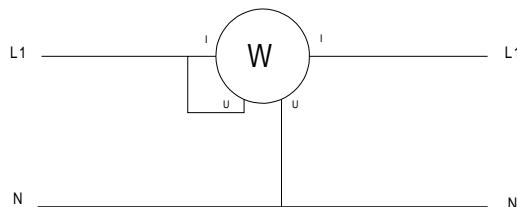
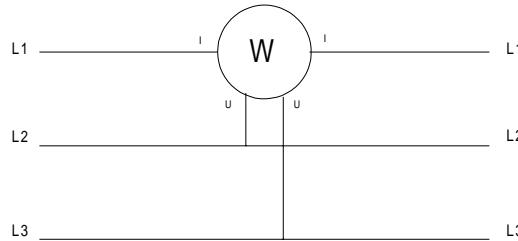

Fig 4.4.1 Single-phase connection diagram
Fig 4.4.2 Three-phase/balanced wires (T3FE) connection diagram (PX 120 only)
Set up as indicated in the connection diagrams in Fig.4.4.1 (single phase) or Fig.4.4.2 (balanced three-phase, T3FE only PX 120), depending on the case, making sure if possible that the maximum acceptable limits are not exceeded (see table below). Range switching is automatic.
3. Set up as indicated in the connection diagrams in Fig.4.4.1 (single phase) or Fig.4.4.2 (balanced three-phase, T3FE only PX 120), depending on the case, making sure if possible that the maximum acceptable limits are not exceeded (see table below). Range switching is automatic.
3. Set up as indicated in the connection diagrams in Fig.4.4.1 or Fig.4.4.2 (T3FE only PX 120), depending on the case, making sure if possible that the maximum acceptable limits are not exceeded (see table below). Range switching is automatic.